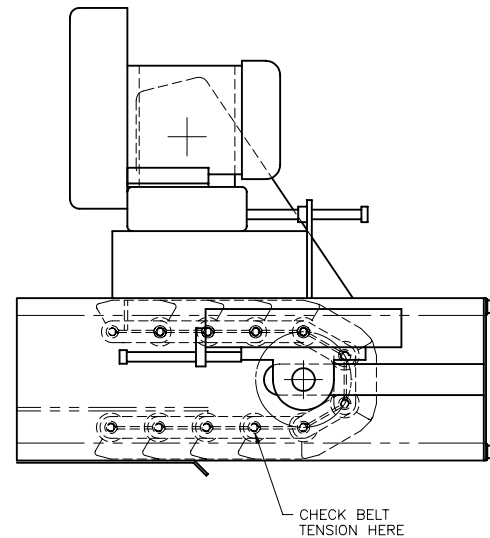

Figure 17: Typical head section.
During operation, the maximum coolant level in the CONSEP 2000® conveyor system is designed to be below the carrying strand of the primary conveyor. This eliminates the possibility of a floating chip problem. The coolant level must be below the internal spray system of the CONSEP 2000®, because it must spray through air not through coolant. See Figure 17.
2. With a hammer, tap hard on the center of the hinge link that is just beyond the head shaft. (See Figure 17)